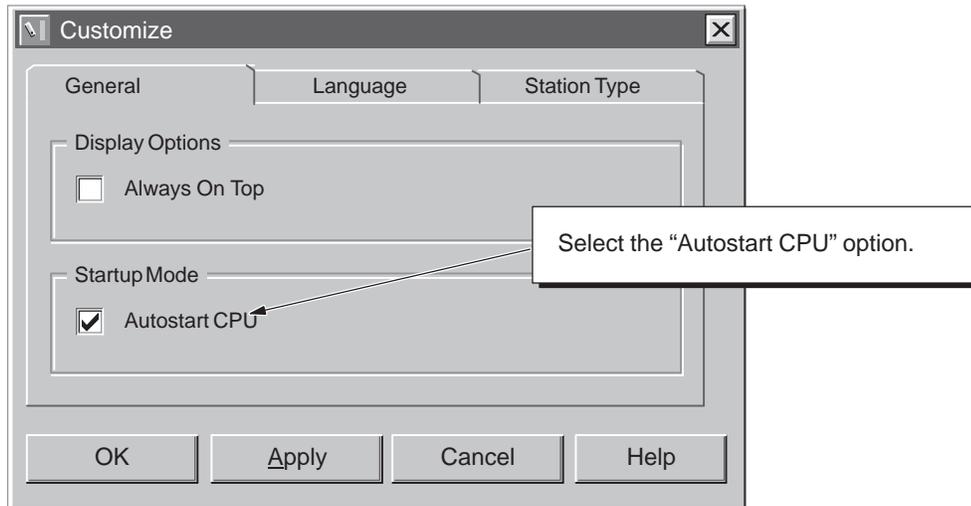

Figure 4-16 Selecting the Autostart Feature
2. In the “Customize” dialog box, select the “General” tab and select the “Autostart CPU” option. See Figure 4-16.